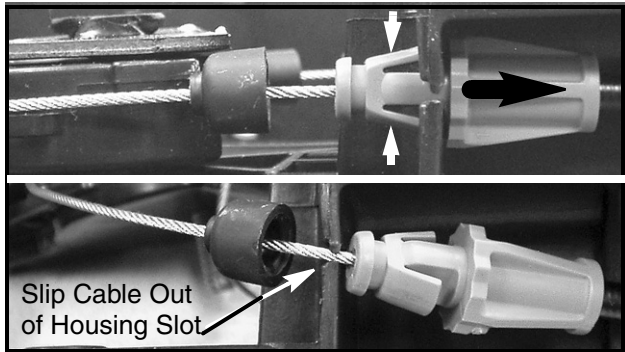

FIGURE 10
14. For both pitch control cables - Carefully remove the rubber boot from the end of the cable fitting. Using a pair of long nose pliers, squeeze the two tabs on the pitch control cable's plastic end fitting and pull the cable fitting out of the LH housing. See Figure 10.
30. Refer to Figure 10. Install the pitch control cables into their respective sockets in the LH housing. Slide each rubber boot back onto the cables end fitting. Ensure that the boot is snapped over and locked the end fitting.